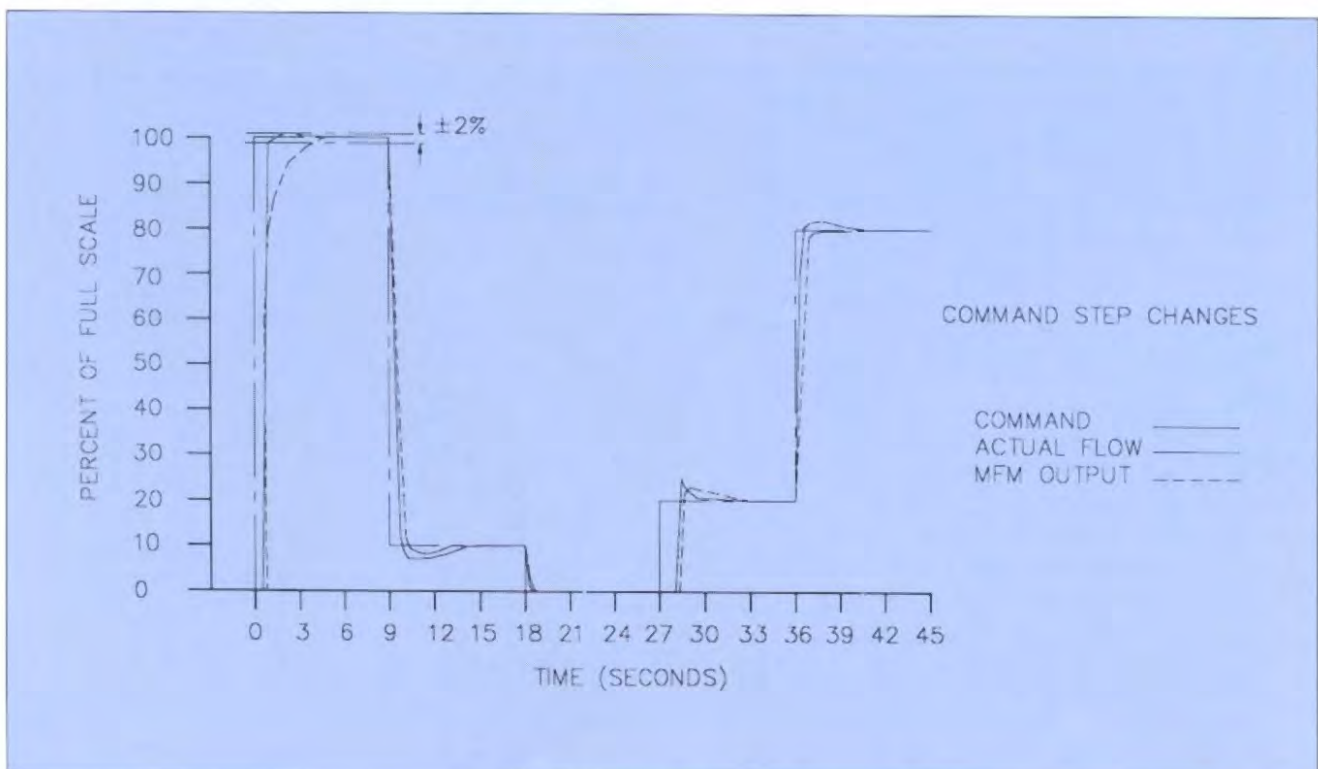

Figure 1-1 Setpoint Steps, Soft Start Disabled
- Fast Response Control permits rapid gas settling times with minimal over/undershoot. Refer to figure 1-1.